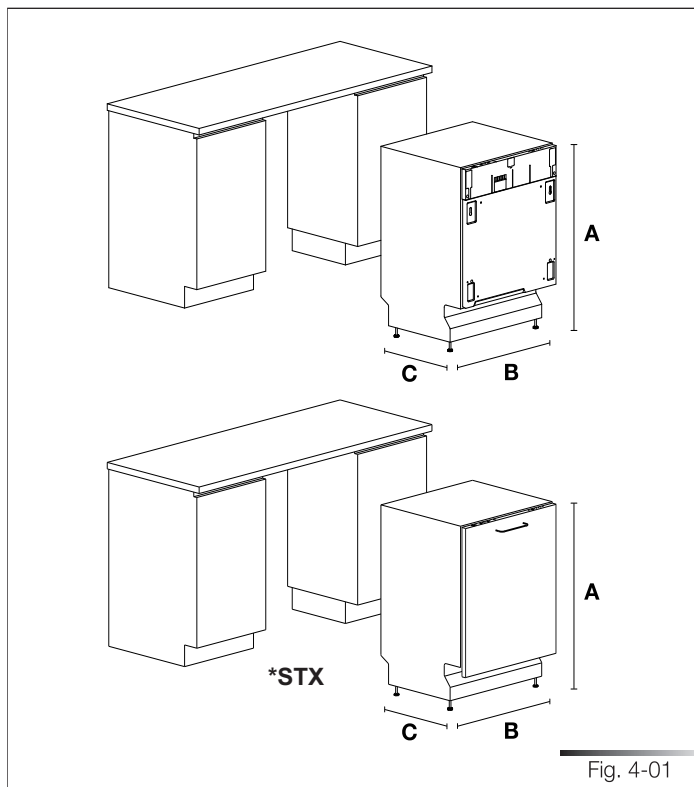

Fig. 4-01
The progressive number of each figure is shown in the bottom right-hand corner of the relative box. An example of a progressive number is “Fig. 4-01”, where the first number (4) indicates the section to which the figure belongs, while the second number (01) indicates the progressive number of the figure in section 4 (Fig. 4-01 is the first figure in section 4). The tables are numbered in the same way, bearing in mind that “Tab.” is used instead of “Fig.” (e.g.: Tab. 4-01 is the first table in section 4). If a table occupies more than one page, a letter is added after the progressive number (e.g.: “Tab. 4-01a”, Tab. 4-01b”).
## 4 DIMENSIONS OF DISHWASHER (See fig. 4-01)